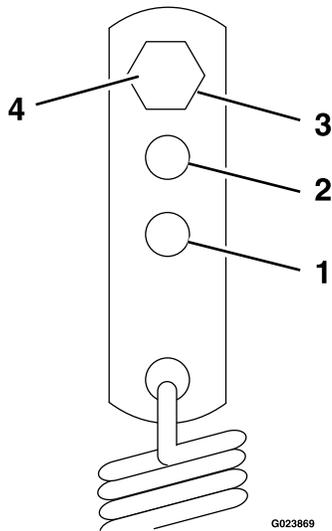

Figure 18
2. For a heavier drive setting, relocate the spring anchor link as shown in Figure 18. The spring anchor links are located under the engine deck on the left and right hand sides.